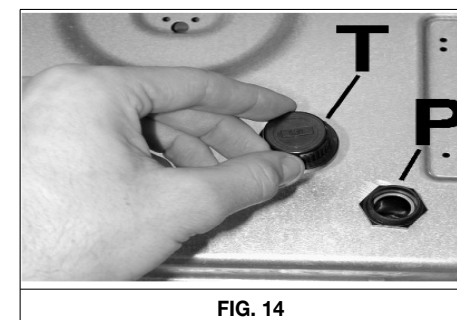

FIG. 14
- Unscrew the ignition cap "T" (see fig. 14) and fit a 1,5 V battery (not included in the appliance) with the positive "+" polarity turn inside. Rescrew the cap.